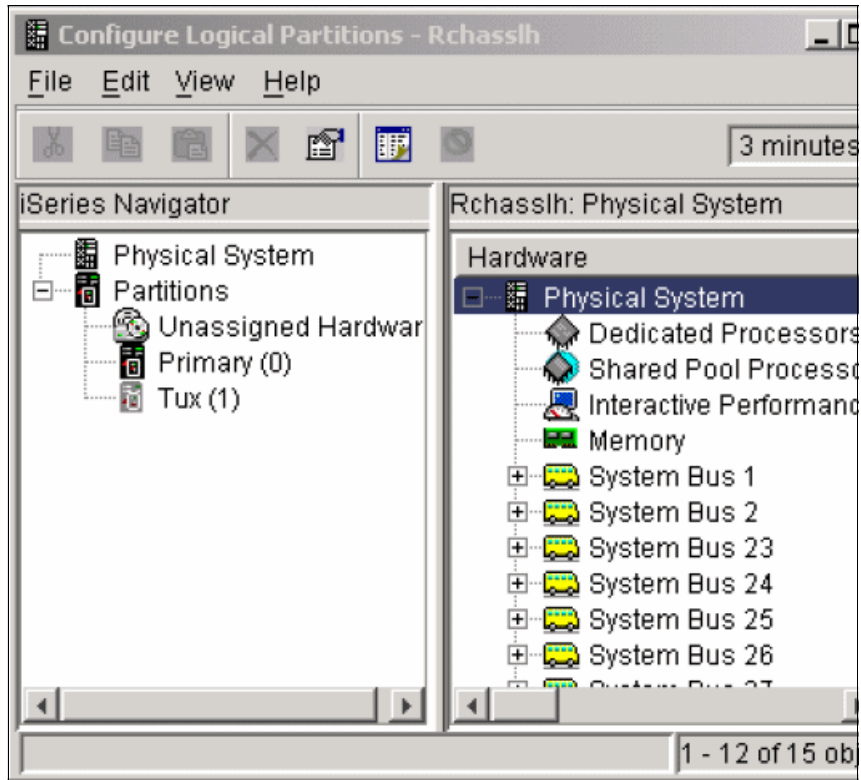

Figure C-4 System i Navigator Panel - Physical System
d. A list of partition configurations displays as shown in Figure C-4.